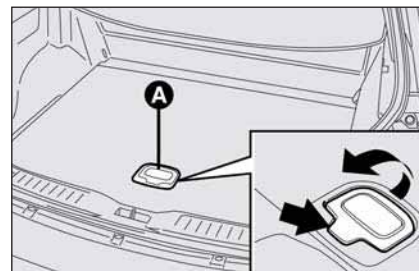

fig. 109
- ☐ raise handle **A**-fig. 109 pressing in the point shown by the arrow at “PUSH”, lift the loading surface and secure it by the proper wire to the upper hook on the roof as shown in the figure fig. 110.
- raise handle **A-fig. 109** pressing in the point shown by the arrow at “PUSH”, use the handle to remove the loading surface from the seat on the suitcase board by raising it slightly and pulling it outwards; the knuckle on the seat side will facilitate this manoeuvre.
- raise handle **A-fig. 109** pressing in the point shown by the arrow at “PUSH”, use the handle to raise the loading surface from the boot mat and pull it outwards; the knuckle on the seat side will facilitate this manoeuvre.